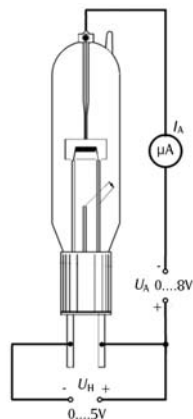

Fig. 3a Circuit set-up for measuring the current onset region
- For the latter regions, connect the circuit as shown in Figures 3a/b.